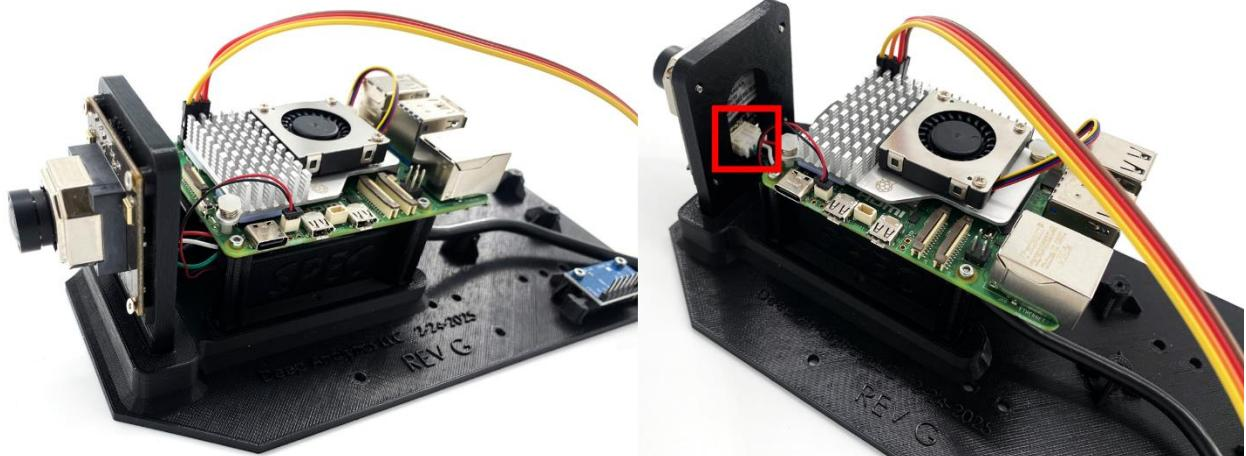

Figure 24. Connect camera.
4. Screw in the camera, make sure it is right side up (white cord plug on bottom shown in red square) (Figure 24).